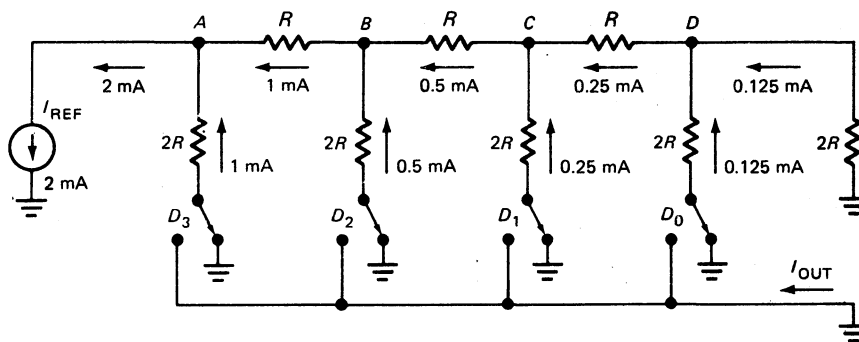

Fig. 16-29
- 16-4. All switches are to the left in Fig. 16-29. What does I_{OUT} equal? The D_2 and D_0 switches are moved to the right. What is the new value of I_{OUT} ?
- 16-5. If I_{REF} is changed to 5 mA in Fig. 16-29, what is the maximum value of I_{OUT} ?